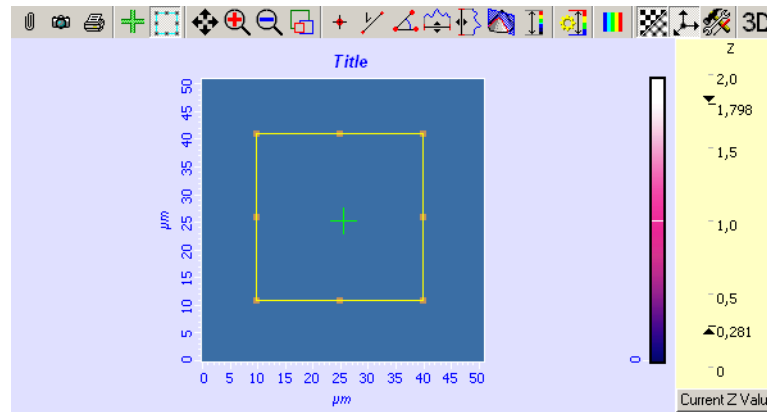

Fig. 12-33. Area of 3D scanning
- a. Enable the function of selecting the scan area in the XY plane by pressing the  button (Fig. 12-33) in the Toolbar.